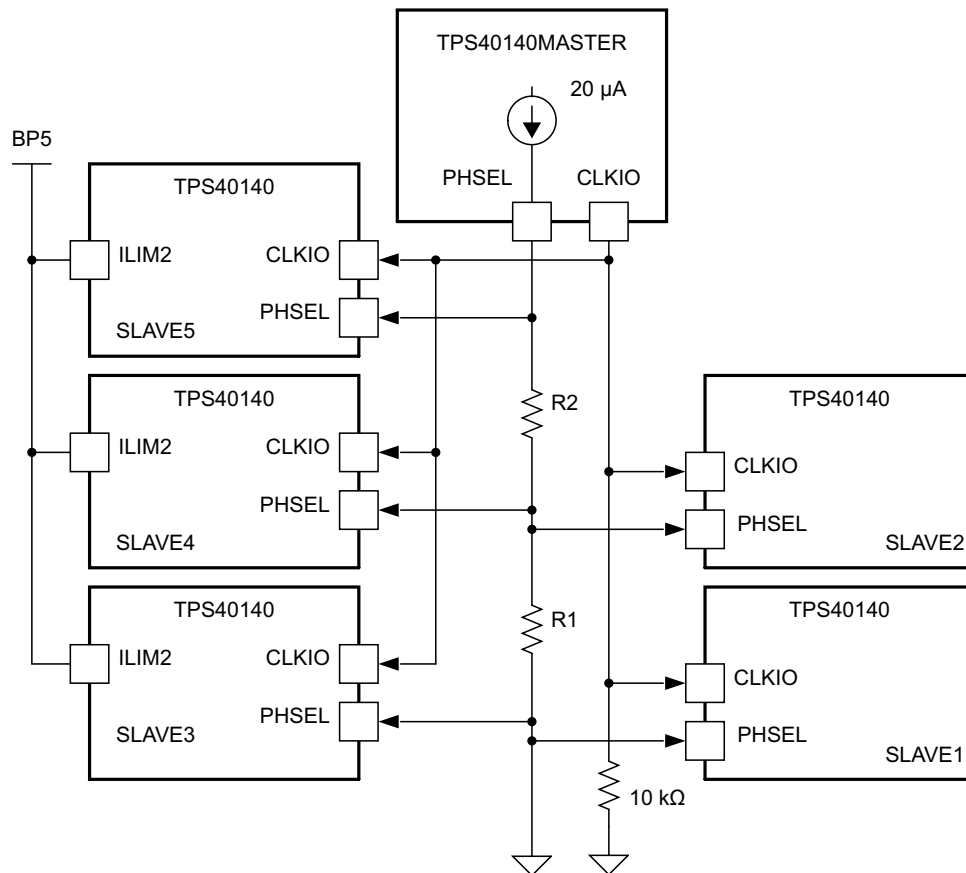
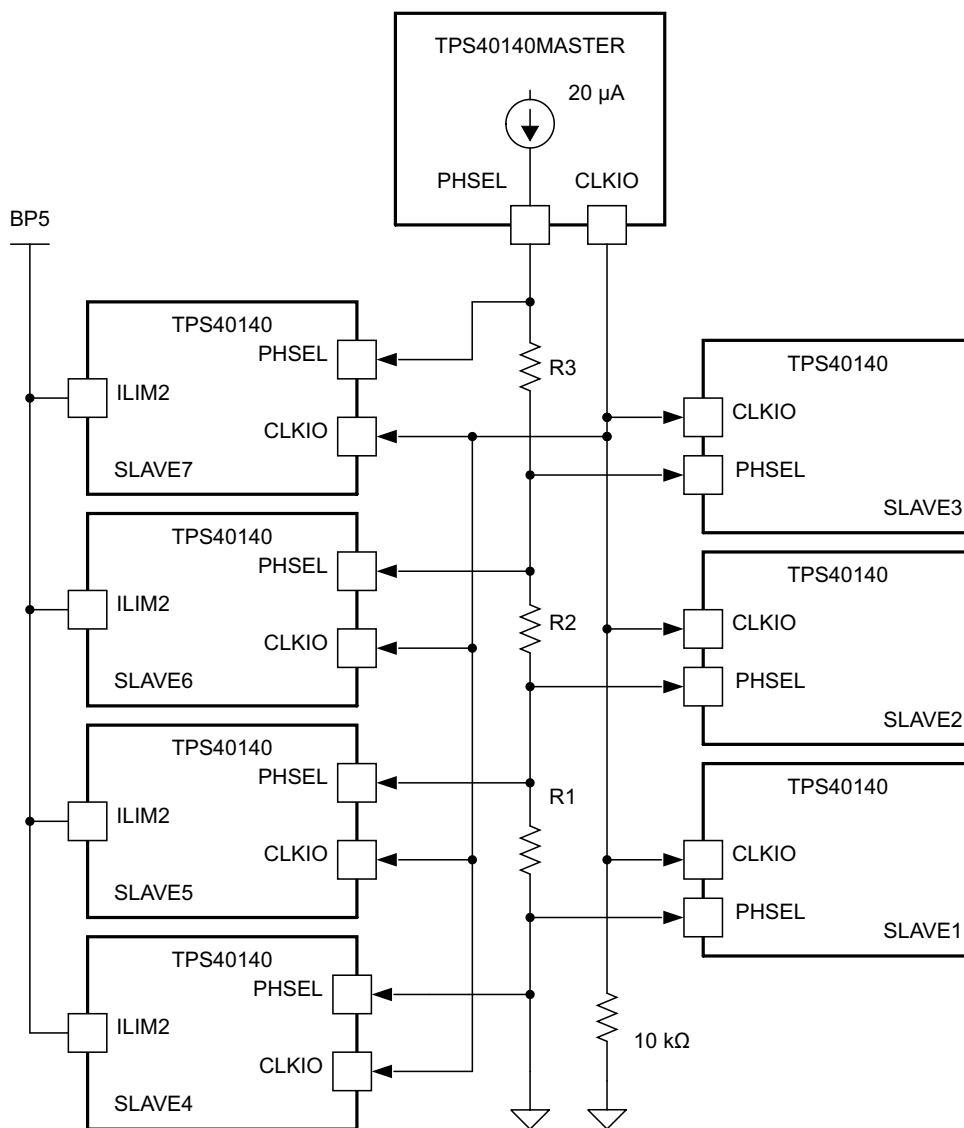
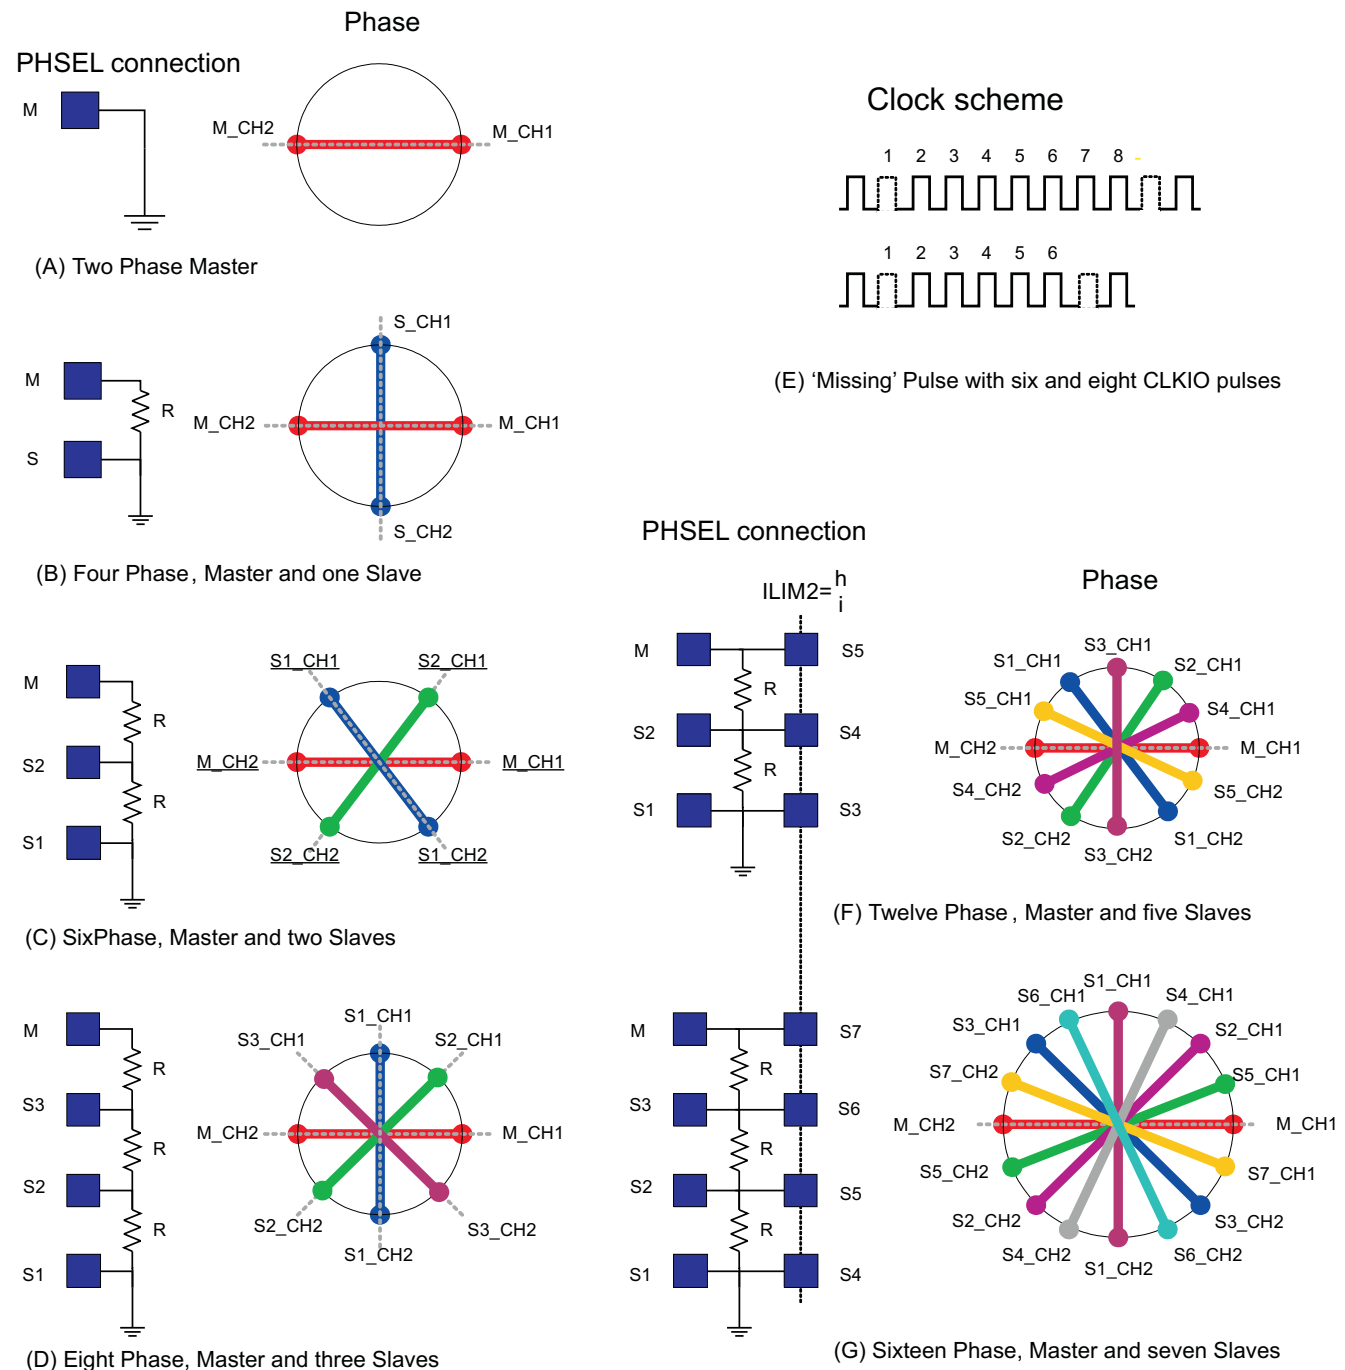

**Figure 24. Master Controller and Five Slave Controllers, 12-Phases**
**Figure 25. Master Controller and Seven Slave Controllers, 16 Phases**
Figure 26. Clock Phasing Summary
To further increase the total current capability to twelve phases, or to increase the number of outputs, five slave controllers can be added as shown in Figure 24.
If four slaves are desired, just delete one of the slaves from Figure 24. The interleaving is not perfect because there is be 30° between the master and three slaves. The deleted slave causes 60° between the two adjacent slaves. See Figure 26 for phasing details.
To further increase the total current capability to sixteen phases, or to increase the number of outputs, seven slave controllers can be added as shown in Figure 25.
In this configuration, the master senses that there are three slave controllers (due to the three resistors) and distributes an eight-phase CLKIO signal. Slave1, slave2, and slave3 are turned on at 90°, 45°, and 135° respectively as before with three slaves. However, to get sixteen phases with an eight-phase clock, both edges of the CLKIO signal are used to control the slaves. With the ILIM2 tied high on slave4, slave5, slave6, and slave7 they turn on at the rising edge of CLKIO, while the master and slave1, slave2, and slave3 turn on at the falling edge of CLKIO. If six slaves are desired, just delete one of the slaves from Figure 25. The interleaving is not perfect because there is 22.5° between the master and three slaves. The deleted slave causes 45° between the two adjacent slaves. See Figure 26 for a phasing details.
Figure 26 is a summary of the master and slave clock phasing. The master and the slaves can be selected to be a multi-phase, single output configuration and/or several independent output voltage rails, independent of the clocking.
The solid square boxes in Figure 26 represent the PHSEL pin of the master (M) controller or a numbered slave controller (S1-S7). The labels on the spokes of the wheels indicate a master Channel 1 and master Channel 2 (M\_CH1 and M\_CH2) and numbered slaves Channel 1 and slave Channel 2 (Sn\_CH1 and Sn\_CH2). The Channel 1 and Channel 2 of a given master or slave is always 180° out-of-phase.
The 3-phase system could also be configured with 1 channel of the master and 2 channels of the slave. Referring to Part (B) above, the 3 phases could be master CH1 or master CH2 and slave CH1 and slave CH2. In either of these configurations there is 90° between two of the channels and 180° between the other channel. The unused channel could be another independent output voltage whose clocking would occupy the phase not used in the 3-phase system. This philosophy can be used for any number of phases not shown in Figure 26, Clock Phasing Summary.